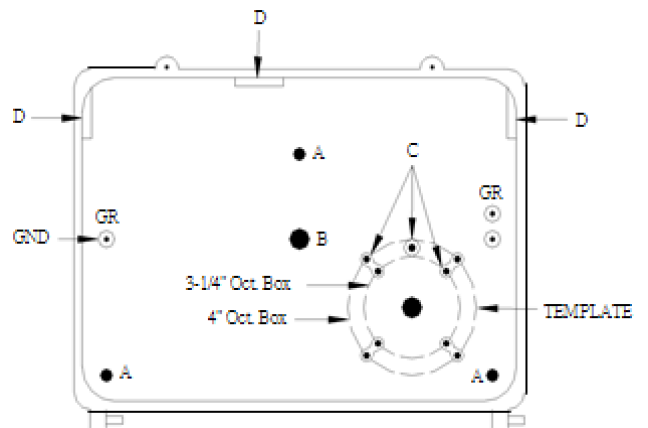

Figure2.
- Inspect the 3 mounting hole locations. (they are item A on Fig. 2) and ensure that there are no components over them.